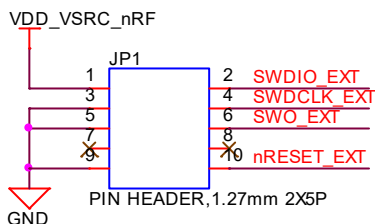

Figure 2: DSU840PA development board schematic
**Note:** Reference on the DSU840PA development board schematic (Figure 2) shows the DVK development schematic wiring only for the JTAG connector and the DSU840PA module JTAG pins.
JTAG is require because Nordic SDK applications can only be loaded using the JTAG (*smart*BASIC firmware can be loaded using JTAG as well as over the UART). We recommend that you use JTAG (2-wire SWD interface) to handle future DSU840PA module firmware upgrades. You **must** wire out the JTAG (2-wire SWD interface) on your host design (see Figure 2, where the following four lines should be wired out – SWDIO, SWDCLK, GND and VCC). *smart*BASIC firmware upgrades can still be performed over the DSU840PA UART interface, but this is slower than using the DSU840PA JTAG (2-wire SWD interface) – (60 seconds using UART vs. 10 seconds when using JTAG).
Laird recommends you use JTAG (2-wire interface) to handle future DSU840PA module firmware upgrades. You MUST wire out the JTAG (2-wire interface) on your host design (see Figure 2, where four lines should be wired out, namely SWDIO, SWDCLK, GND and VCC). Firmware upgrades can still be performed over the DSU840PA UART interface, but this is slower (60 seconds using UART vs. 10 seconds when using JTAG) than using the DSU840PA JTAG (2-wire interface).